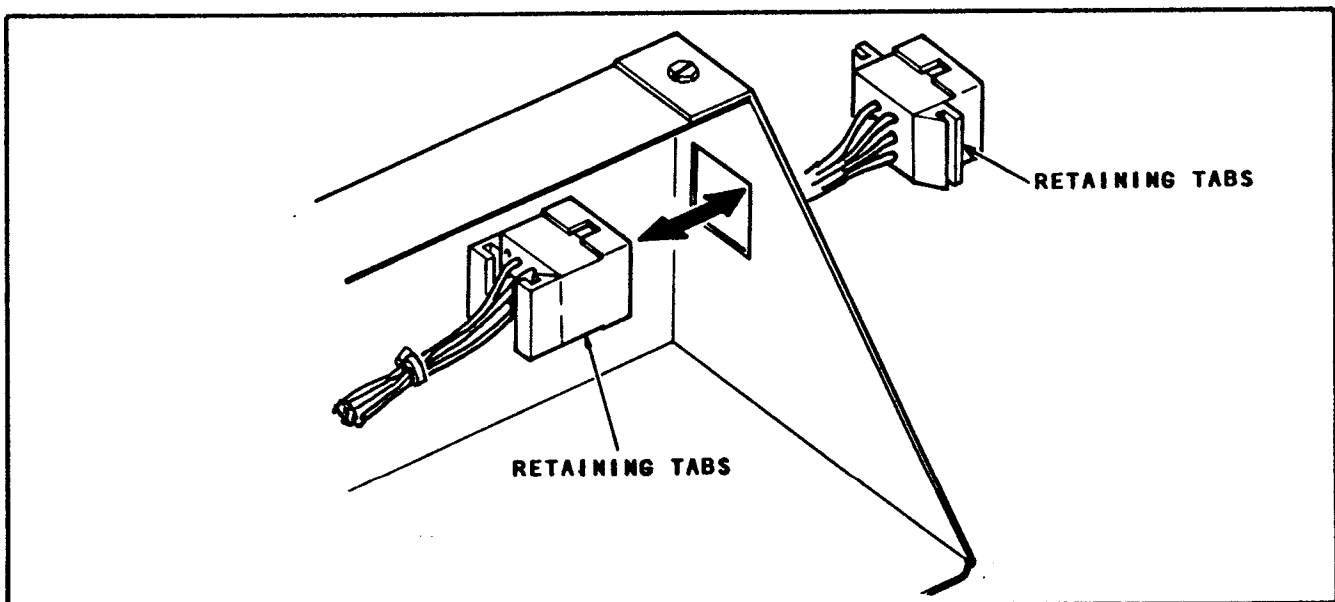

FIGURE 2
3. Fold the retaining tabs back toward the harness (See Figure 2) and push the connector all the way back through the hole in the End Plate.
4. Fold the retaining tabs of the harness input connector back toward the harness (See Figure 2) and push the connector all the way through the hole in the End Plate.